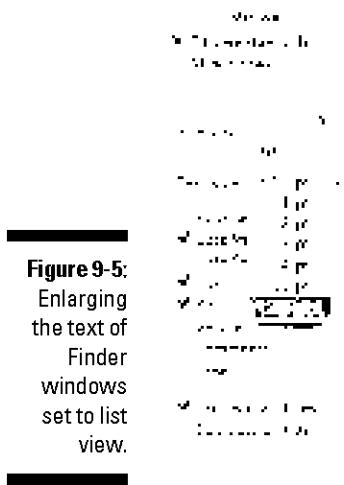

Figure 9-5:
1. Select a folder and press Control+J to open the View Options window, as shown in Figure 9-5.